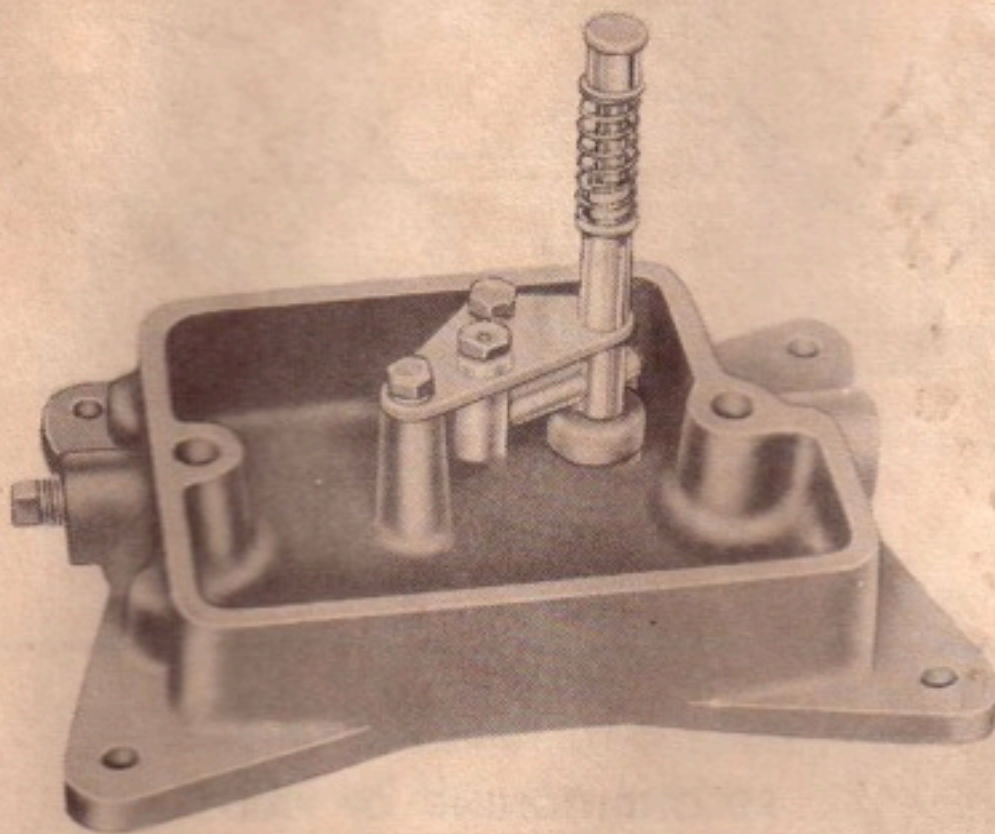

Figure C-9. Oil Pump Mounted in Base
b. Some model engines are equipped with a plunger-type oil pump in the base. (See figure C-9.) Check the pump carefully for worn or damaged parts.